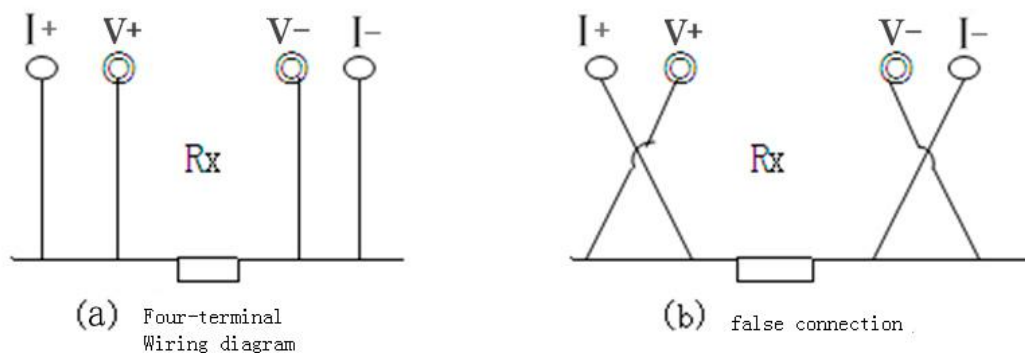

Figure 3 Four-terminal wiring diagram
(1) Wire as shown in the Figure 3.